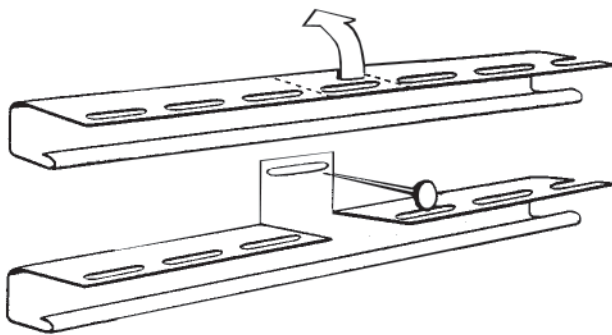

Figure 67.
- If no soffit receiver is available for a situation best suited for the product, the J-channel can be modified to create an F-receiver (Fig. 67).
- Simply cut slots in the nail flange area where it would be nailed to the wall (Fig. 67). After cutting the nail flange, bend the flange back and nail it to the wall.